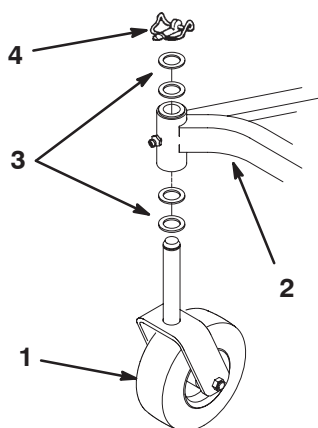

Figure 4
2. Remove the lynch pin and 2 thrust washers shipped on each castor wheel assembly. Leave 2 thrust washers on each shaft, insert the shafts into the frame mounting tube, and install the thrust washers and lynch pin (Fig. 4).